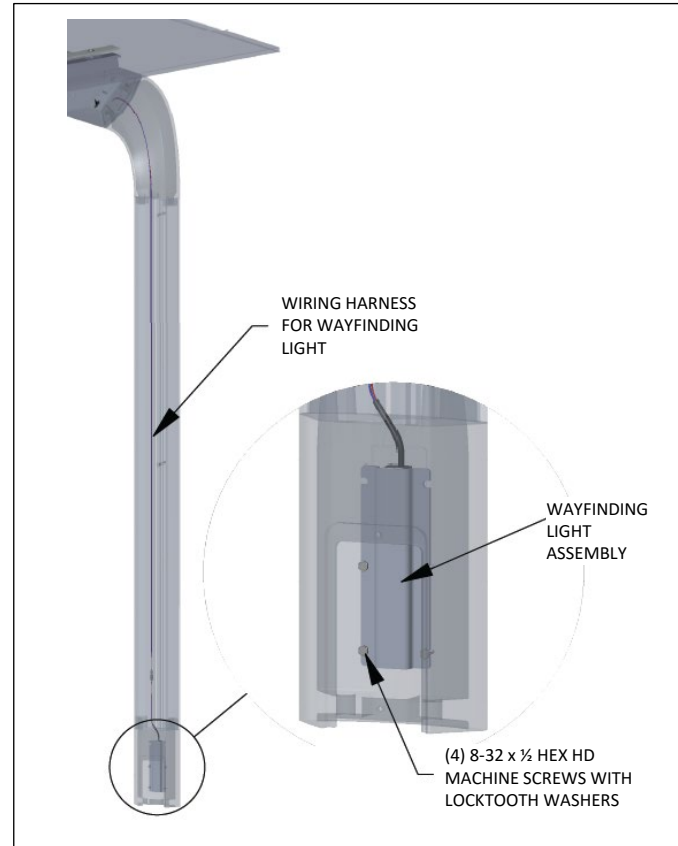
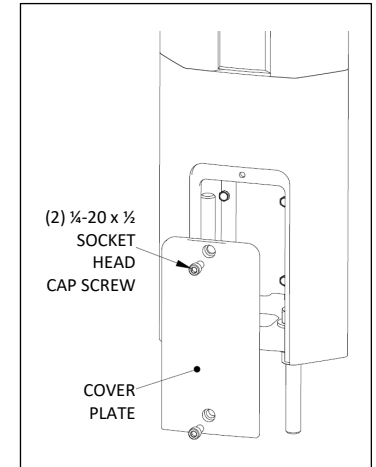

Fig. D6 – Install wayfinding lights
Fig. D7 – Install wayfinding light cover plate
6. Wayfinding lights: Run wiring harness up through front vertical post. On the front left side of the unit, remove the access cover on the front horizontal beam. Make connection from the wiring harness to the quick disconnect located in the beam. Secure LED to front vertical post, using (4) 8-32 x 1/2" hex head machine screws with external tooth lock washer, located in hardware pack #62810, see Fig. D6. Before final tightening of screws, ensure only the lens from the light is showing through the front opening. Repeat for opposite side. Install cover plates, using (2) 1/4-20 x 1/2" socket head cap screws, located in hardware pack #62607, see Fig. D7.